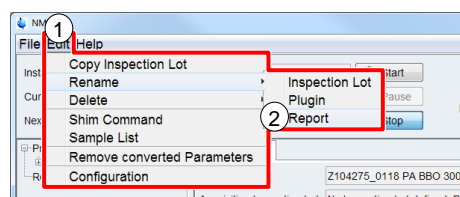

Figure 5-20: Rename Report in menu
To rename a report, on the **Edit** menu shown in Figure 5-20 (1), point to **Rename**, and click **Report** (2).